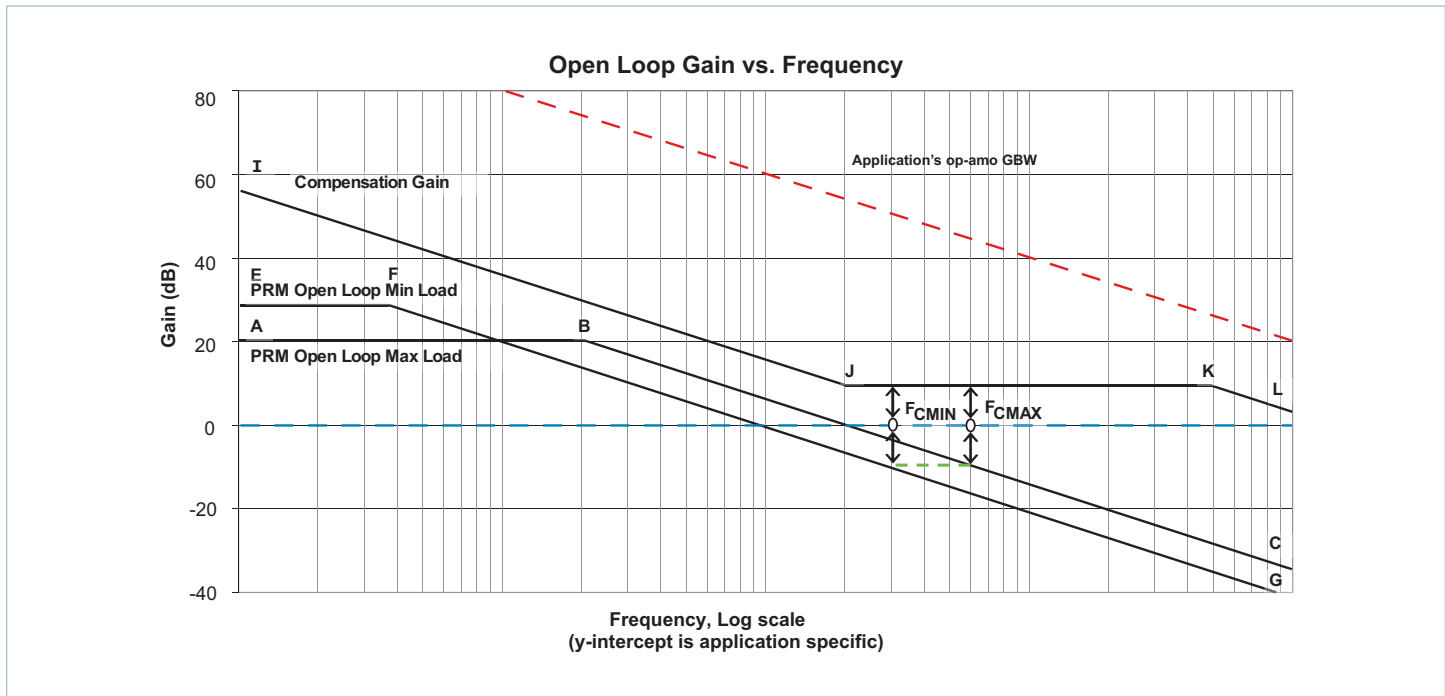

Figure 38 — Reference asymptotic Bode plot for the considered system
Figure 40 illustrates an example of a load step response. Equation (11) can be used to predict the phase margin based on the ratio of the “kick” to “droop” (as defined in Fig. 38).